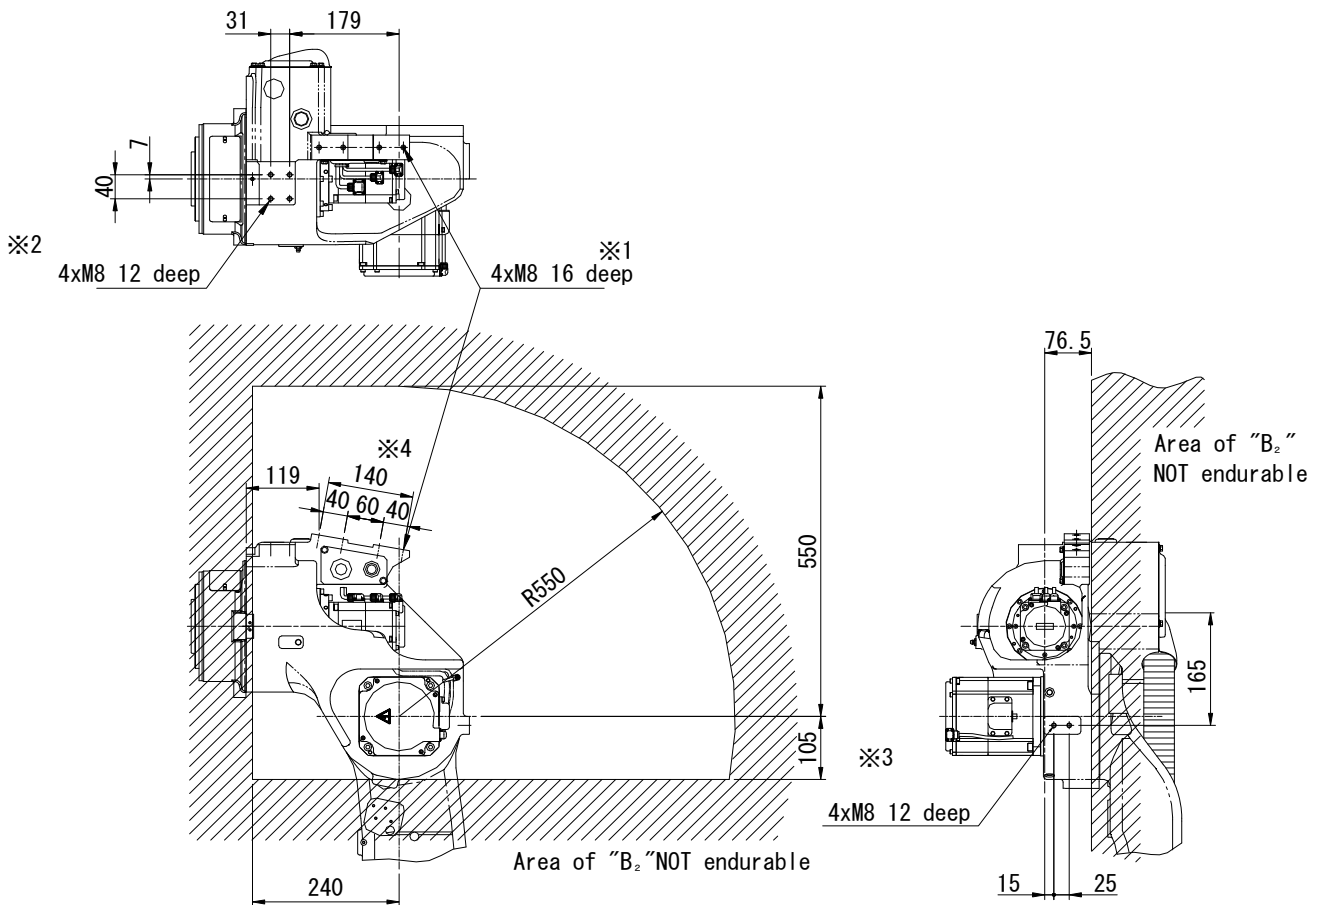

Fig. 2.1.7 Equipment Mounting Position on the Upper Arm of NV06L-02 Manipulator (unit: mm)
The top of the upper arm is provided with the face to mount the equipment such as a wire feeding unit, gas solenoid valve etc. To mount the equipment, use 4XM8 holes (indicated by ※1 in Fig. 2.1.7) provided.
As for 4XM8 holes (indicated by ※2 in Fig. 2.1.7) in the front and 2XM8 holes (indicated by ※3 in Fig. 2.1.7) in the back, use them only for cable clamping or others that the large external force is not applied on.
- (b) The center-of-gravity position for mounting an equipment on the upper arm must be within the 140-mm pitch position (indicated by ※4 in Fig. 2.1.7) of 4XM8 tapping holes. Be careful not to intervene the area of **NOT-endurable** shown by hatching in the figure below.